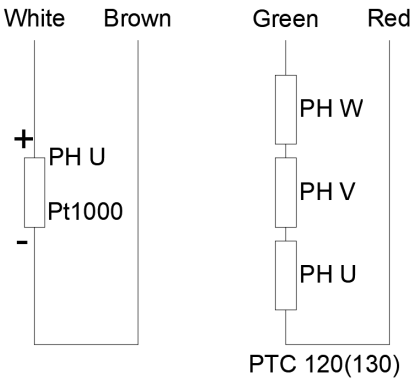
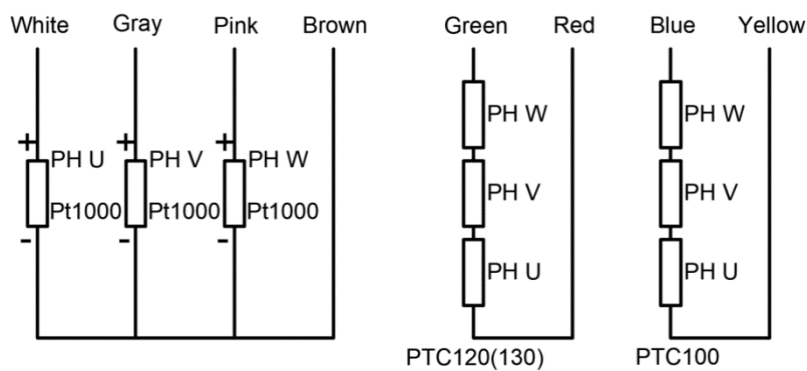

Figure 5.2.2 Type A
Figure 5.2.5 Type D
IGUS®'s Chainflex® (CF240) is used for temperature sensor cable. There are three temperature sensors in standard specification (Type B), a set of PTC100, a set of PTC120(130) is installed on every phase winding, and a Pt1000 is installed on phase U in standard. Temperature sensors used in each Type are given in Table 5.2.4. The cross-sectional area of temperature sensor cable is 0.25 mm2, and the pin assignment of temperature sensor cable for each type is given from Figure 5.2.2 to Figure 5.2.5.